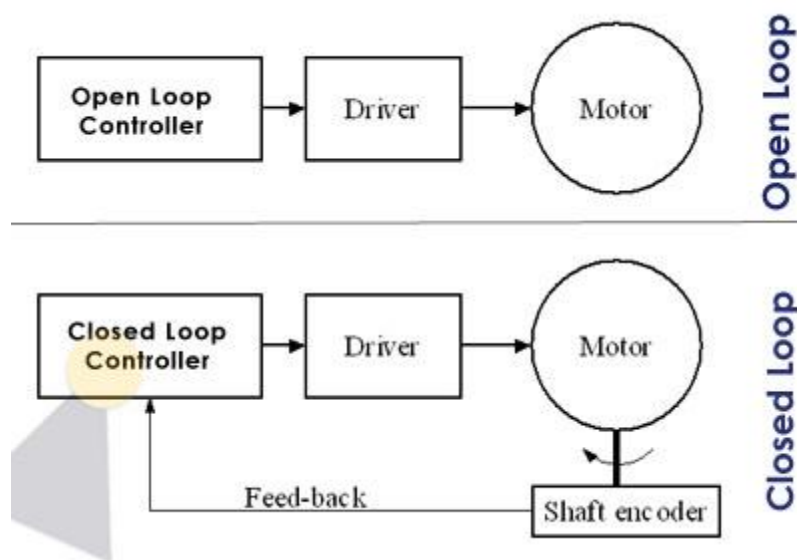

figure 1.A
**Figure 1.A** shows clearly the difference between the two control schemes. Both types have a controller that gives orders to a driver, which is a power circuit (usually an H-bridge) that drives the motor in the required direction. It is clear that the closed loop system is more complicated because it needs a 'shaft encoder' which is a device that will translate the rotation of the shaft into electrical signals that can be communicated to the controller.
Recalling the **figure 1.A**, a closed loop system contains a controller and a driver. the driver on its own – which is usually an H-bridge – cannot control the velocity of the motor. The most common technique to do so is to let the controller turn the driver ON and OFF at very high rates, changing the ratio between the ON and OFF time to control the speed of the motor. This is what is called PWM or Pulse Width Modulation. For more information about PWM, and to know how to implement it in a microcontroller program, you may read the “Electronics and Algorithms” part of this related article.